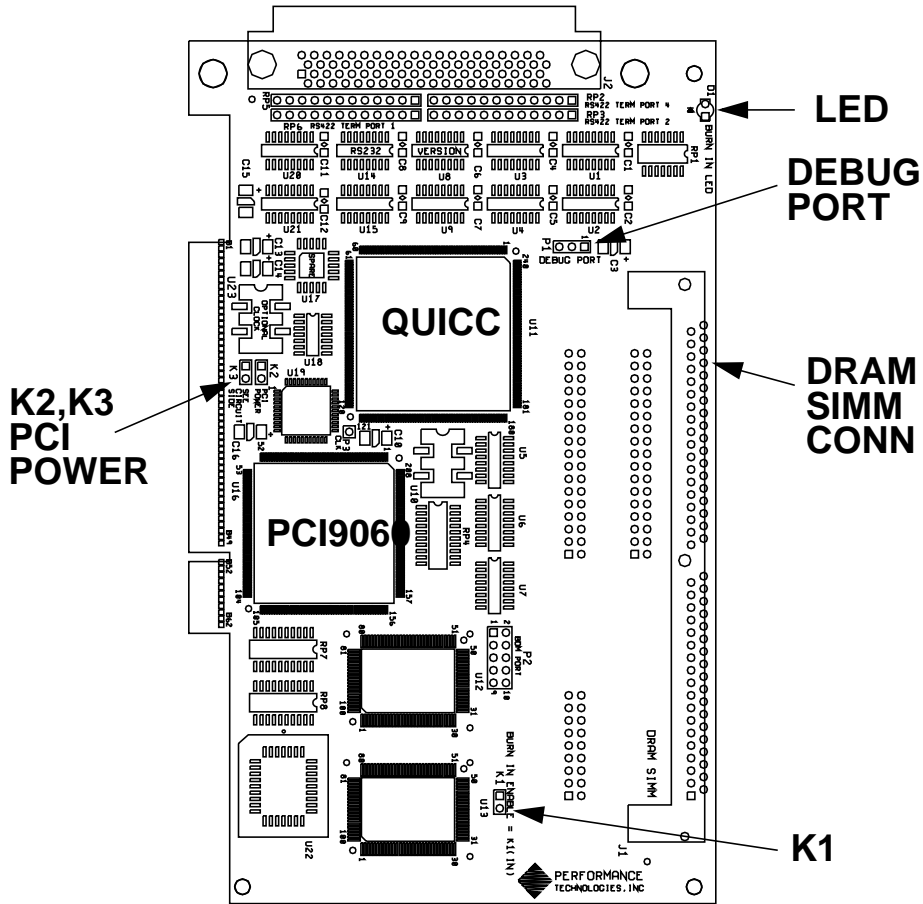

FIGURE 2-1 Mechanical Layout Drawing
- FIGURE 2-1 Mechanical Layout Drawing 4